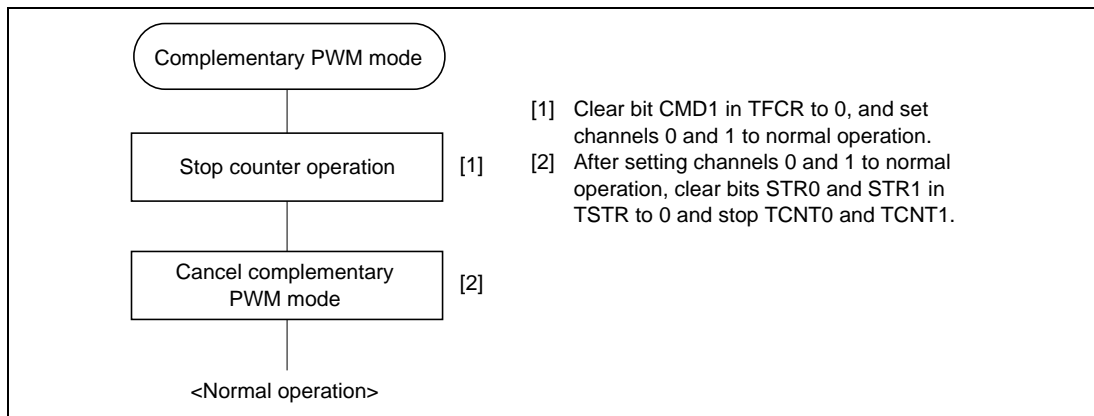

Figure 13.30 Canceling Procedure of Complementary PWM Mode
1. Canceling Procedure of Complementary PWM Mode: Figure 13.30 shows the complementary PWM mode canceling procedure.